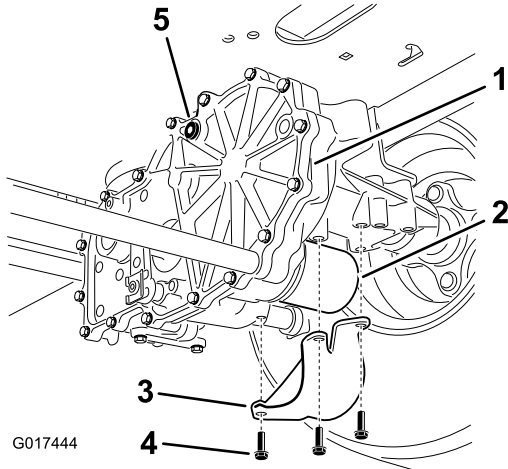

Figure 106
4. Locate the filter and guards on each transaxle-drive system (Figure 106).
5. Remove the 3 screws securing the filter guard and guard (Figure 106).